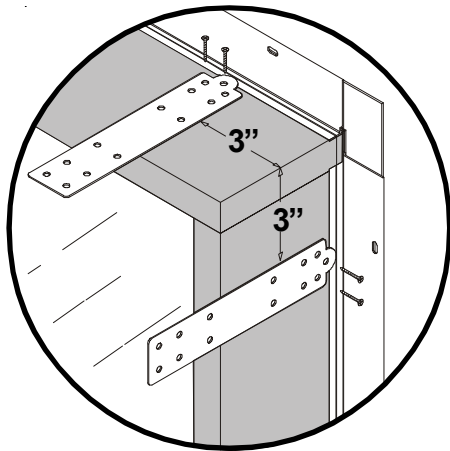

Figure 1
- 1) Windows that are being installed into a masonry application may not have the clips factory applied. In this case, place a clip 3" from each corner and fasten with two #7 x 3/4" long screws. (Fig. 1)